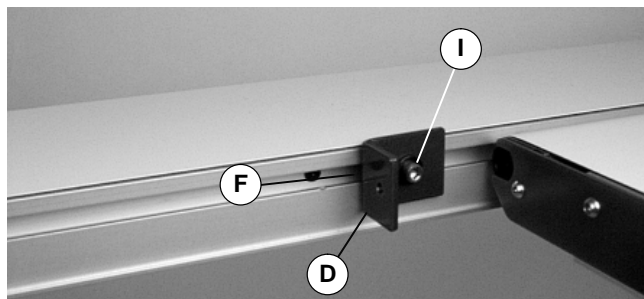

Figure 17
3. Loosely attach 90° bracket (D of Figure 17) to T-bar (F) using screw and washer (I).